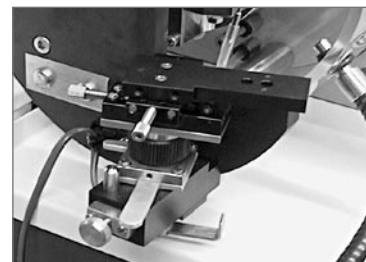

FIGURE 2C Remove steel stage mount and high-voltage lead
- 5) Using a precision screwdriver, loosen the two (2) 2 mm-thread screws from the top of the steel stage mount. You can then remove the steel stage mount from the top of the stage.
- 6) Disconnect the high-voltage lead from the side of the stage by loosening the mounting screw. The stage should now look like Figure 2C.